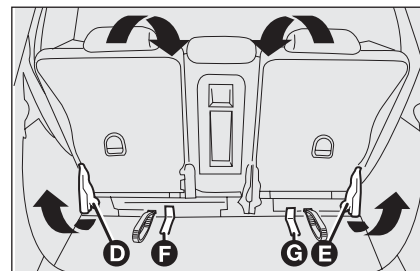

fig. 116
- ☐ use levers **D** and **E**-fig. 116 to fold the rear seat backs on the cushions;
- ☐ use tapes **F** and **G**-fig. 116 to tilt the seats completely.